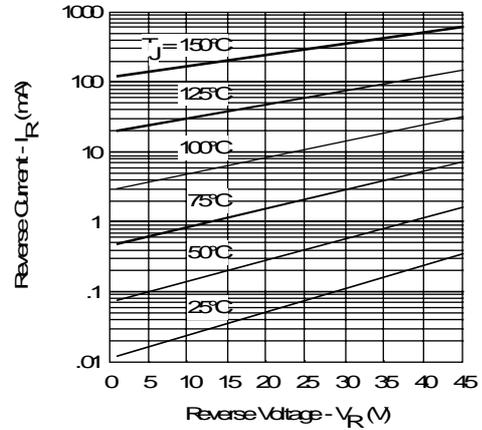

Fig. 2 - Typical Values Of Reverse Current Vs. Reverse Voltage (Per Leg)
| I_{RM} Max. Reverse Leakage Current (Per Leg) * See Fig. 2 (1) | 5 | mA | $T_J = 25^\circ\text{C}$ $V_R = \text{rated } V_R$ |